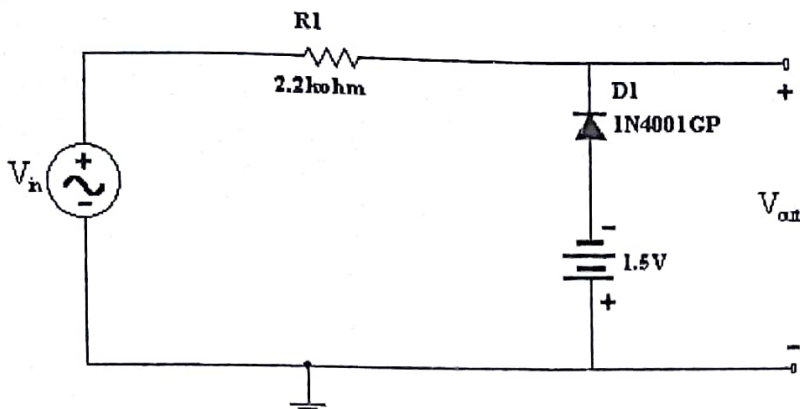

Fig.9: A shunt Clipper with DC Battery
11. Construct the clipping circuit shown in Figure 9. Record the measured value of the resistor. Note that the input signal is 10 V_{p-p} sine wave at a frequency of 1 KHz .
4. Refer to the circuit shown in Figure 9, how can you limit the output at a voltage different than the threshold voltage (V_γ) of the diode, for example at around $\pm 5V$?